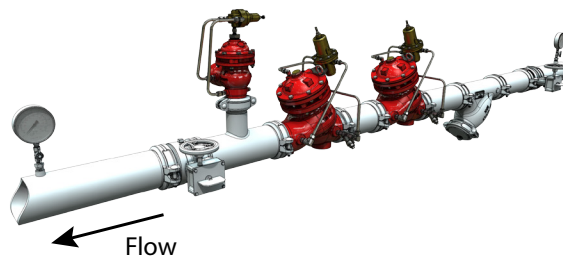

Figure 1: Installation Drawing
3. Listed isolating valves should be installed upstream and downstream of the model 867-7UL valve to allow future maintenance. See Figure 1.
9. Install a UL listed pressure gauge on both the upstream and downstream of the pressure reducing control valve. See Figure 1 for indicated installation.
When performing this procedure, refer to Figure 1.